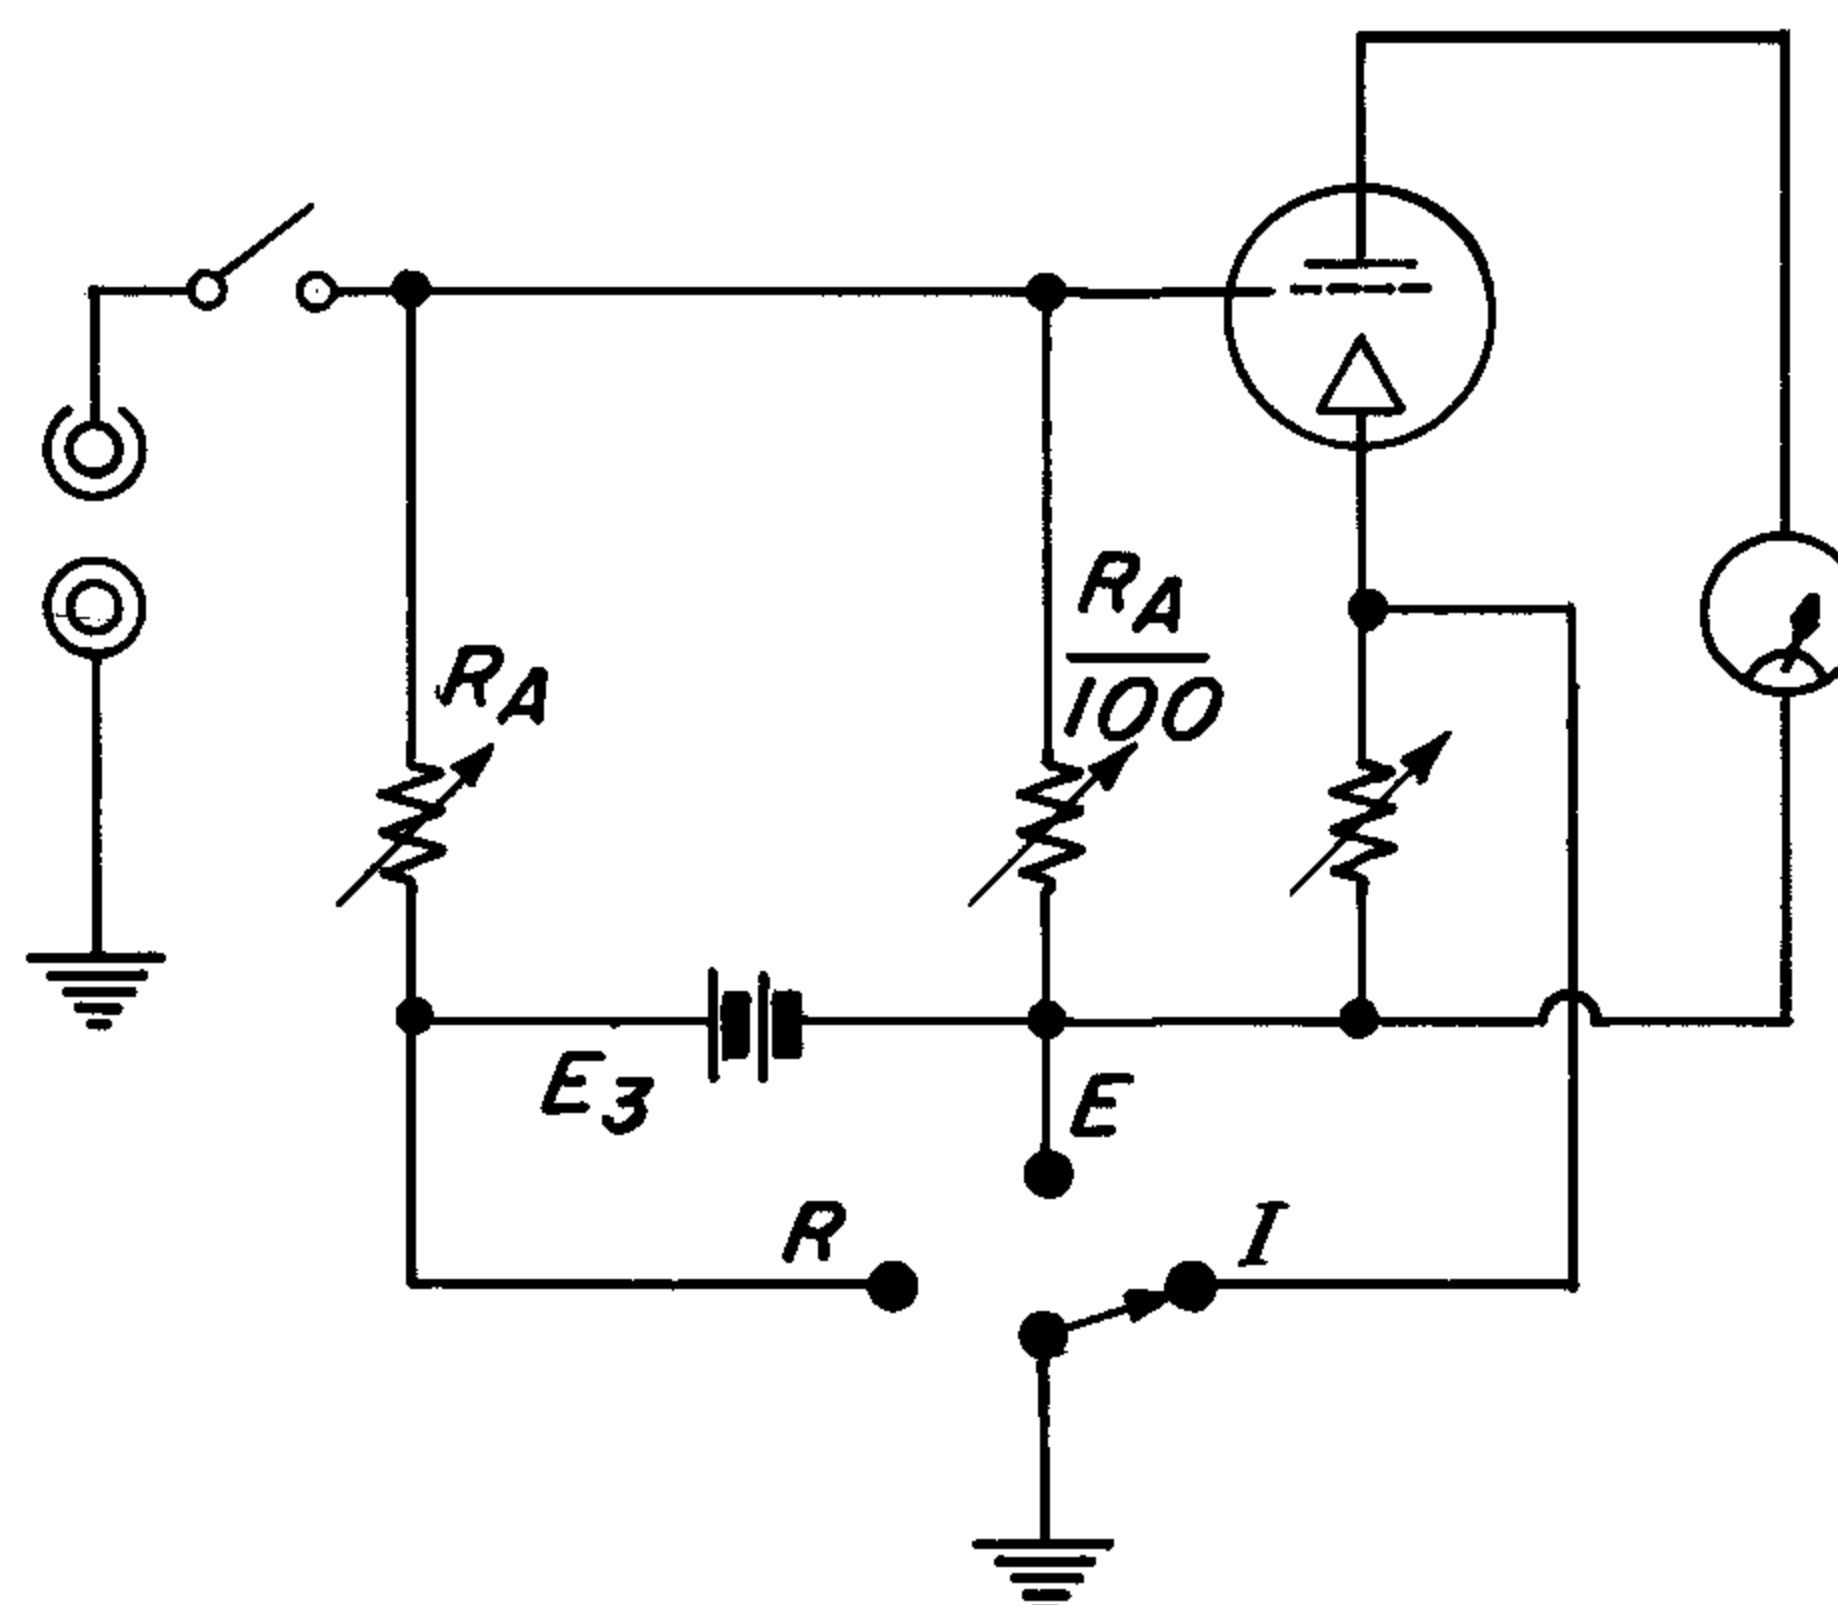

Figure 11. Check on Internal Resistance Standard.
5.1 CHECKING INTERNAL RESISTANCE STANDARDS. When the MV-VOLTS-OHMS switch is set in the CHECK position, the instrument indicates the resistance of any higher RESISTANCE MULTIPLIER standard. This indication is given on the 90 OHMS scale. (See Figure 11.) The resistance of the standard,  $R_A$ , is given in terms of the standard two steps below it ( $\frac{R_A}{100}$ ). The lower-resistance standards ( $10^4$  ohms and  $10^5$  ohms) are wire-wound resistors, accurate to  $\pm 0.25$  percent. Since the meter reading is near full scale, the higher standards can be checked with a considerable degree of accuracy. A single measurement is sufficient to determine the correct value of either the  $10^6$ -ohm or  $10^7$ -ohm standard. Two measurements are required to determine the value of either the  $10^8$ -ohm or  $10^9$ -ohm standard. (For instance, the  $10^9$ -ohm standard is measured in terms of the  $10^7$ -ohm standard, and the  $10^7$ -ohm standard is in turn measured in terms of the  $10^5$ -ohm standard.) Three measurements are necessary to determine the value of either the  $10^{10}$ -ohm or  $10^{11}$ -ohm standard. The preliminary zero setting, which is  $\infty$  on the OHMS scale, should be made with the INPUT RESISTANCE OR OHMS MULTIPLIER switch set at  $10^5$  ohms for greatest accuracy. The GROUND switch may be set at any of its three positions. Lock the ZERO (PUSH) in to open the INPUT terminal.